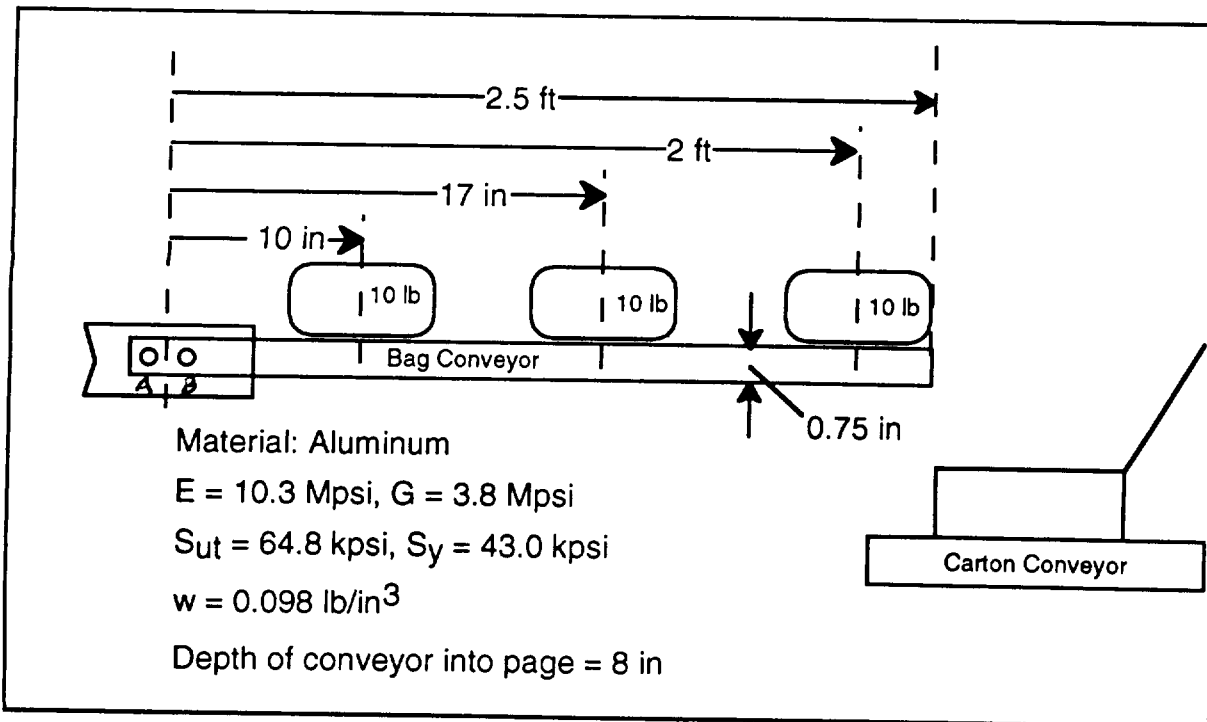

Figure 1 -- Bag Tosser Concept Dimensions
(1) We are interested in determining the **deflection** of the section of the bag conveyor that overhangs the carton conveyor since we do not want the two to hit each other. Start by drawing the **shear diagram** for this section of the conveyor. Then **formulate and solve** the necessary equation(s) to determine the deflection of the conveyor given the dimensions and loading condition shown in Figure 1. Be sure to state any assumptions you make.